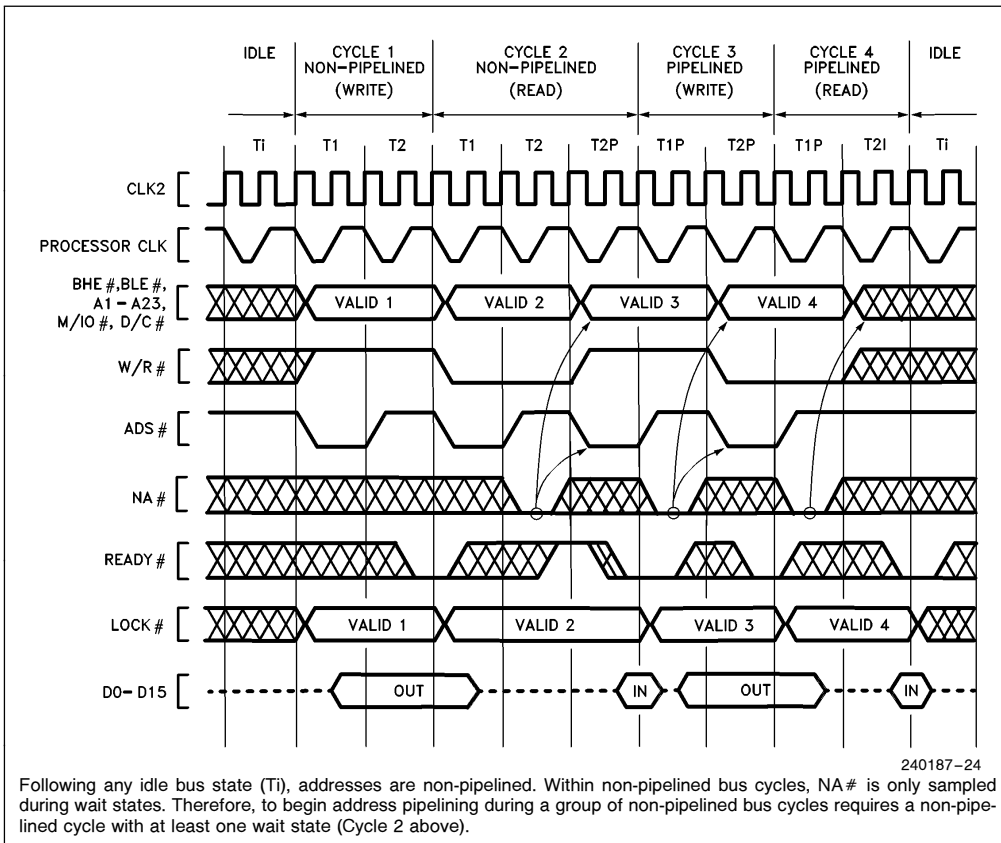

Figure 5.9. Transitioning to Pipelined Address During Burst of Bus Cycles
Once a bus cycle is in progress and the current address has been valid for at least one entire bus state, the NA# input is sampled at the end of every phase one until the bus cycle is acknowledged. During non-pipelined bus cycles NA# is sampled at the end of phase one in every T2. An example is Cycle 2 in Figure 5.9, during which NA# is sampled at the end of phase one of every T2 (it was asserted once during the first T2 and has no further effect during that bus cycle).
1. The next address may appear as early as the bus state after NA# was sampled active (see Figures 5.9 or 5.10). In that case, state T2P is entered immediately. However, when there is not an internal bus request already pending, the next address will not be available immediately after NA# is asserted and T2I is entered instead of T2P (see Fig-
2. Any address which is validated by a pulse on the ADS# output will remain stable on the address pins for at least two processor clock periods. The Intel386 SX Microprocessor cannot produce a new address more frequently than every two processor clock periods (see Figures 5.9, 5.10, and 5.11).
Examples of transition bus cycles are Figure 5.10 Cycle 1 and Figure 5.9 Cycle 2. Figure 5.10 shows transition during the very first cycle after an idle bus state, which is the fastest possible transition into address pipelining. Figure 5.9 Cycle 2 shows a transition cycle occurring during a burst of bus cycles. In any case, a transition cycle is the same whenever it occurs: it consists at least of $T1$, $T2$ ($NA\#$ is asserted at that time), and $T2P$ (provided the Intel386 SX Microprocessor has an internal bus request already pending, which it almost always has). $T2P$ states are repeated if wait states are added to the cycle.
Once a pipelined bus cycle is in progress, pipelined timing is maintained for the next cycle by asserting $NA\#$ and detecting that the Intel386 SX Microprocessor enters $T2P$ during the current bus cycle. The current bus cycle must end in state $T2P$ for pipelining to be maintained in the next cycle. $T2P$ is identified by the assertion of $ADS\#$. Figures 5.9 and 5.10 however, each show pipelining ending after Cycle 4 because Cycle 4 ends in $T2I$. This indicates the Intel386 SX Microprocessor didn't have an internal bus request prior to the acknowledgement of Cycle 4. If a cycle ends with a $T2$ or $T2I$, the next cycle will not be pipelined.